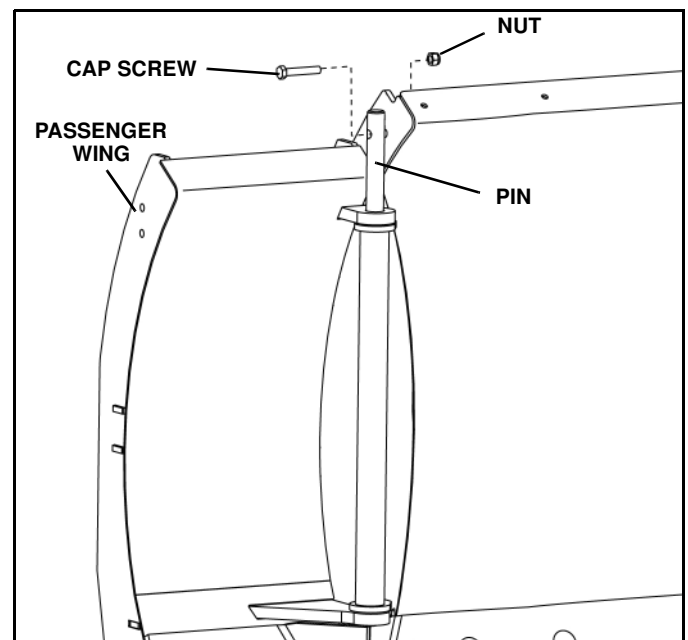

Figure 1-9
1. Align passenger side wing with blade. Coat pin with grease and insert completely through blade and wing. Install a 5/16" – 13 x 1-3/4" hex head cap screw through the pin and blade. Secure with a 5/16" locknut. Tighten the nut, but do not torque. (See Figure 1-9).